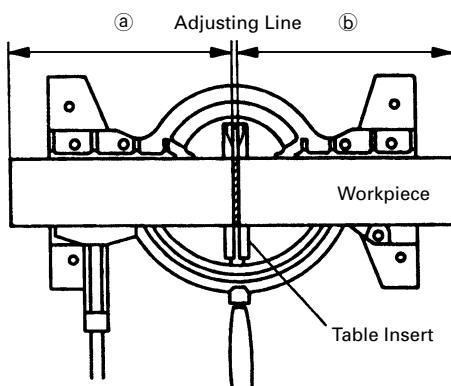

Fig. 15
- (1) As shown in Fig. 15 the width of the saw blade is the width of the cut. Therefore, slide the workpiece to the right (viewed from the operator's position) when length **b** is desired, or to the left when length **a** is desired.
- (2) Once the saw blade reaches maximum speed, push the handle down carefully until the saw blade approaches the workpiece.
- (3) Once the saw blade contacts the workpiece, push the handle down gradually to cut into the workpiece.
- (4) After cutting the workpiece to the desired depth, turn the power tool OFF and let the saw blade stop completely before raising the handle from the workpiece to return it to the full retract position.